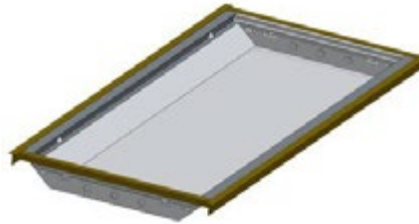

Fig.1.2
4. Repeat above step for the other side of the fixture.(Fig.1.2).